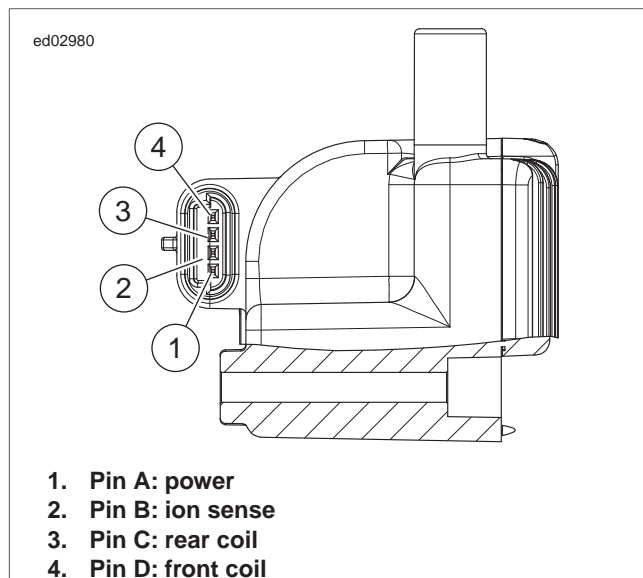

Figure 6-30. Ignition Coil
2. See Figure 6-30. Use HARNESS CONNECTOR TEST KIT (Part No. HD-41404-B) to connect FUEL INJECTOR TEST LIGHT (Part No. HD-34730-2D) to [83B] terminals A and D.
2. See Figure 6-30. Use HARNESS CONNECTOR TEST KIT (Part No. HD-41404-B) to connect FUEL INJECTOR TEST LIGHT (Part No. HD-34730-2D) [83B] terminals A and C.